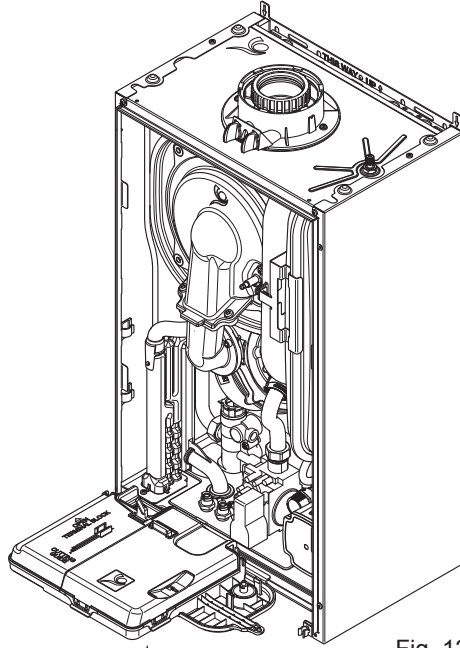

Fig. 12
1. Ensure that the electrical supply to the boiler and the system controls are isolated. Undo the screws securing the door panel and lift off the front panel. Hinge down the controls (Fig. 12).
3. Release the cover retaining barbs from their slots. Disengage the rear of the cover from the fascia and lift the cover away (Figs. 12 & 13).